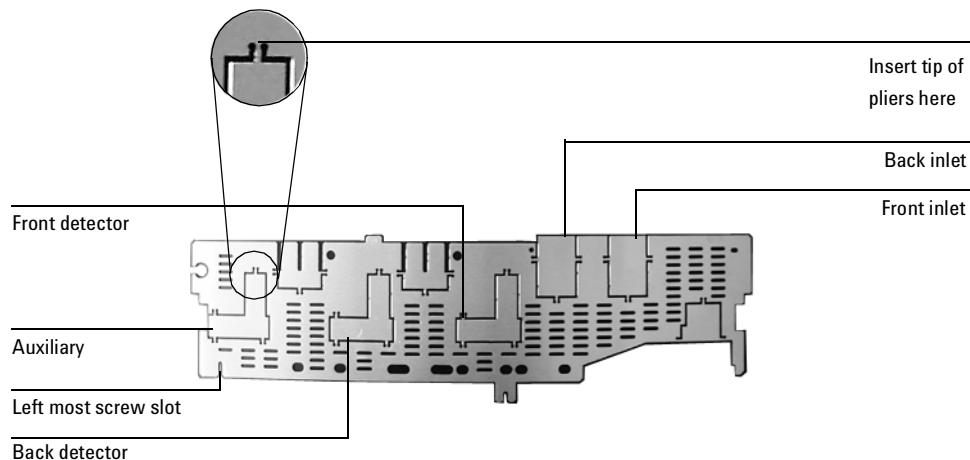

Figure 360-8 Top rear panel cutouts
13. Using a pair of needle-nosed pliers, remove the top rear panel cutout for Auxiliary. Also remove any cutouts needed to access other manifolds or accessories installed in the GC. See Figure 360-8.